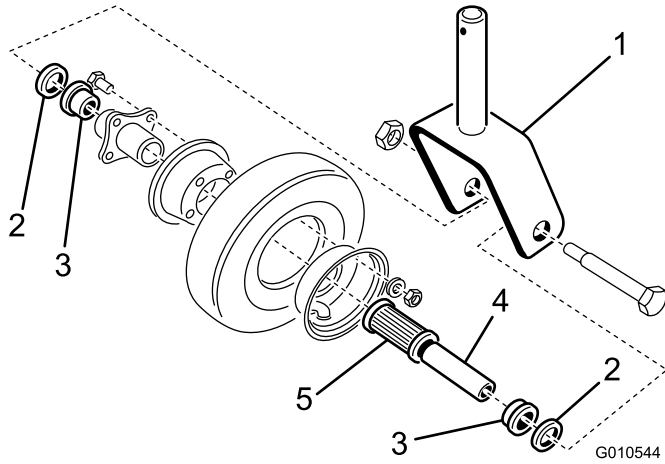

Figure 19
1. Remove the locknut from the bolt holding the castor wheel assembly between the castor fork (Figure 19). Grasp the castor wheel and slide the bolt out of the fork.
2. Tip the wheel to the side and allow the spanner bushing (Figure 19) to fall out.
3. Remove one bearing retainer from the wheel hub and allow the bearing to fall out. Remove the bearing retainer from the opposite side of the wheel hub (Figure 19).